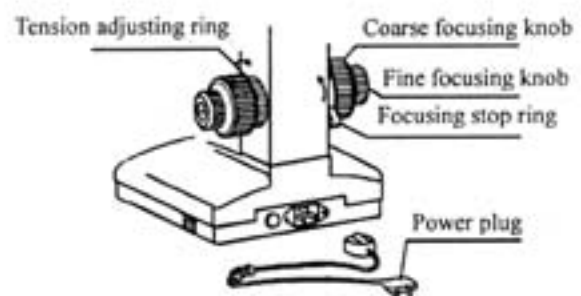

Fig 3 Coarse and fine focusing adjustment
4.3 Operation of the tension adjustable ring and focus stop devices (see Fig.3)
Revolve the tension adjustable ring on the left to the arrowed direction as shown in Fig.3. This can tighten the coarse focusing knob to prevent the stage from sliding down automatically.